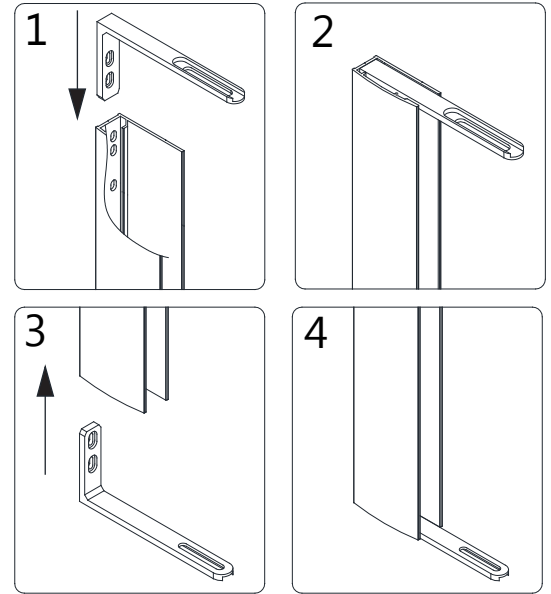

Fig 2
2. Separate the **Pivot Retainers (#08)** from the **Pivot Assemblies (#07)** by removing the **Round Head Socket Bolt M6×12 (#17)**. Insert the **Pivot Retainers (#08)** into both ends of the **Wall Profile for Pivot Side (#01)**. (**Fig 2**)